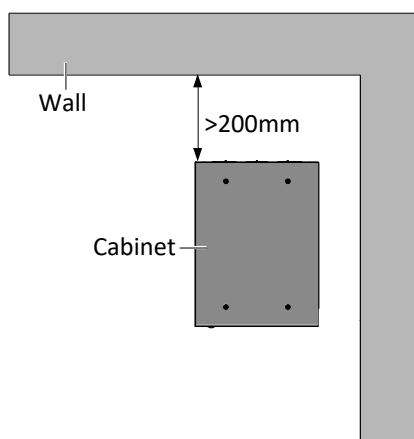

Figure 2-5 Installation clearances (top view)
The UPS uses forced cooling by internal fans. Cooling air enters the UPS through the ventilation grills at the front of the cabinet and exhausted through the ventilation grills at the back of the cabinet. Do not obstruct the ventilation holes (ventilation grills). The front and rear of the UPS should be kept at a distance at least 200mm (see Figure 2-5) from the wall to avoid blocking the UPS heat dissipation, thus reducing the UPS internal temperature and improving the UPS life.
2. The clearance between the rear panel of the wall should be convenient, as shown in Figure 2-5. The clearance should not be less than 200mm and sufficient to permit maintenance operations.